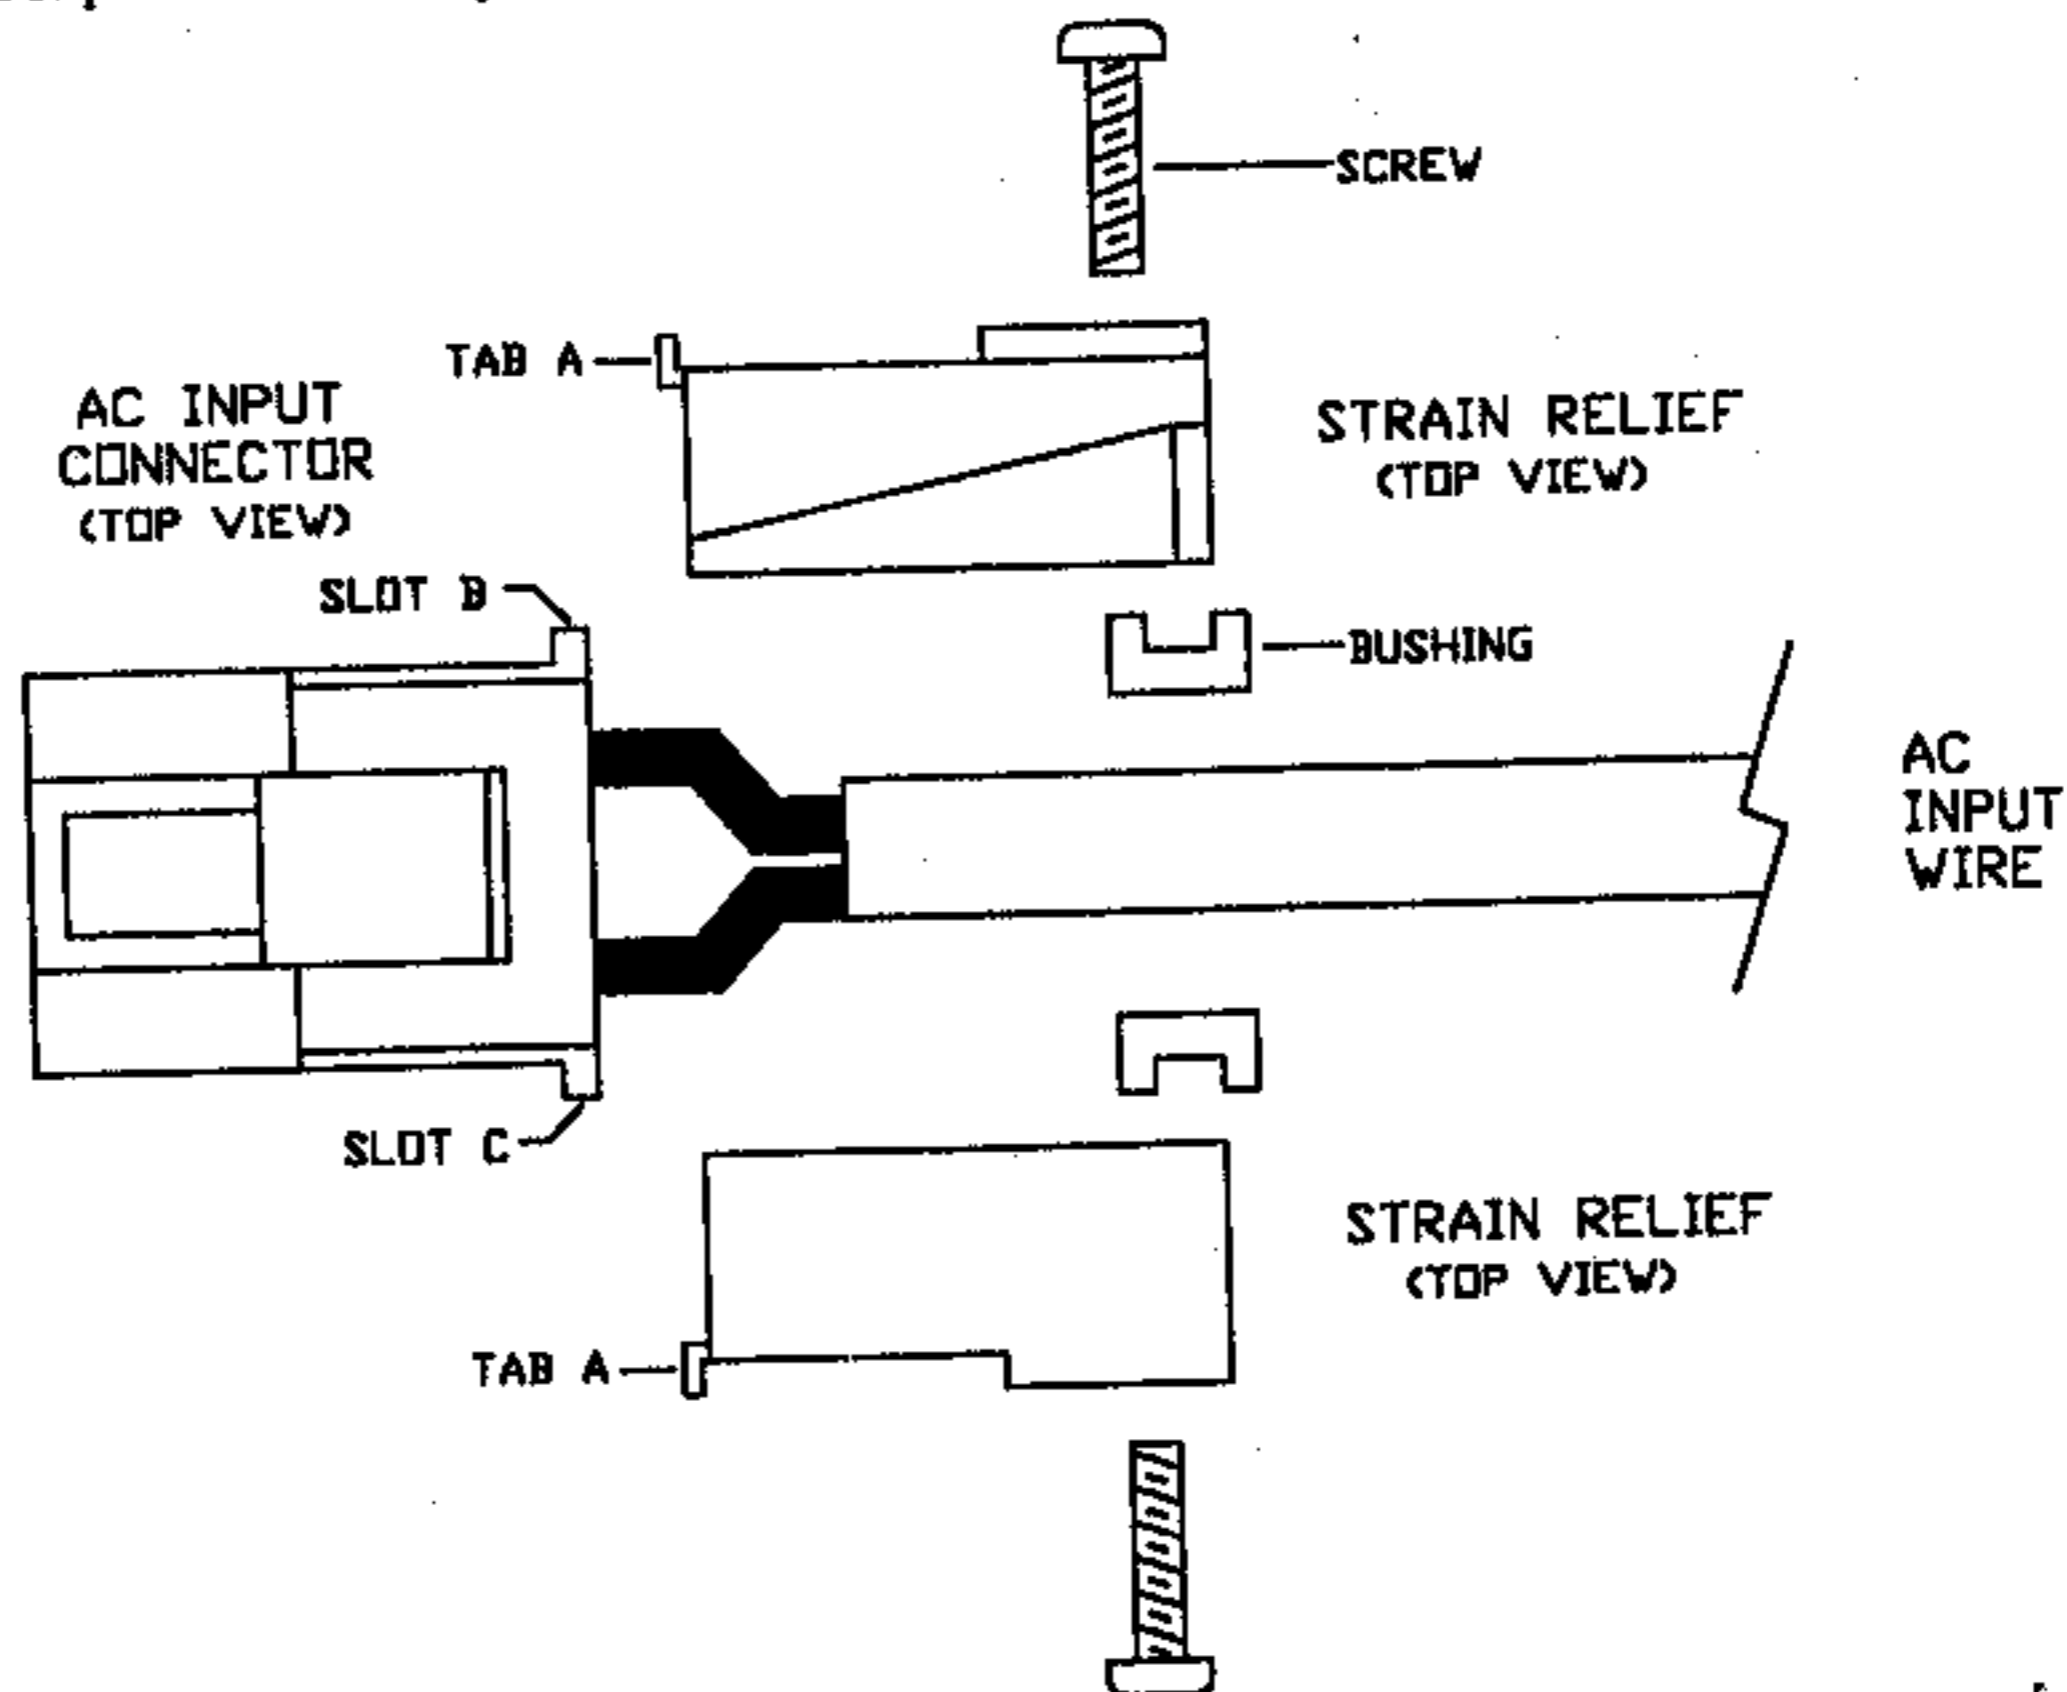

Figure 2.3-6 Strain Relief Assembly
3. Insert strain relief tab A into AC input connector slot B. Insert second strain relief tab A into AC input connector slot C. See Figure 2.3-6.